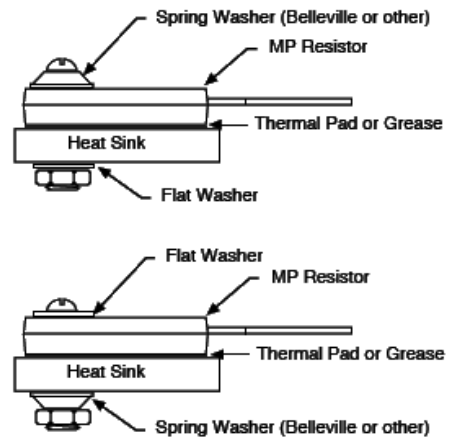

Figure 3 - Screw and Washer Mounting Techniques
- Screw Mounting - Belleville or Conical Washers used with a screw are an effective method for attachment to a heat sink. A Belleville washer is a conical spring washer designed to maintain constant pressure over a wide range of deflection. The washers withstand long-term temperature cycling without variation in pressure. Figure 3 shows some typical hardware configurations for screw mounting a TO-Style package to a heat sink. Flat washers, star washers, and most split lock washers should not be used in place of Belleville washers since they do not provide a constant mounting pressure and may cause damage to the resistor.